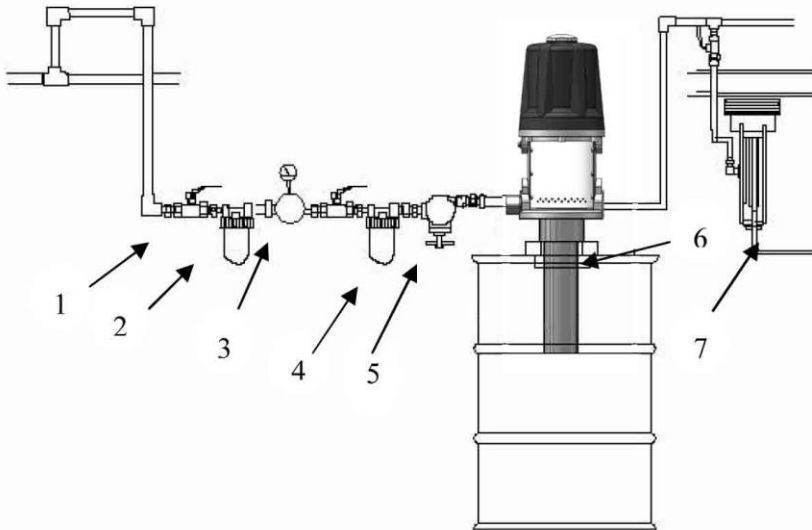

Fig.3: Oil supply system installation
- Place the pump into lock adapter (Fig 3, Part 6).
- Install cut-off valve (Fig 3, Part 1).
- Install filter (Fig 3, Part 2).
- Install regulator which controls the speed and adjusts the air pressure (Fig 3, Part 3).
- Install lubricator which self-lubricates (Fig 3, Part 4).
- Install control valve which controls flux. When the speed is too fast, pump will automatically self-close to avoid pump be damaged (Fig 3, Part 5).
- Put the pump into lock adapter (Fig .3, Part 6).
- Install regulator, which controls the speed, and adjust the air pressure (Fig 3, Part 3).
- Install lubricator, which self-lubricates (Fig 3, Part 4).
- Install control valve, which controls the flux. When the speed is too fast, the pump will close automatically to avoid damage (Fig 3, Part 5).